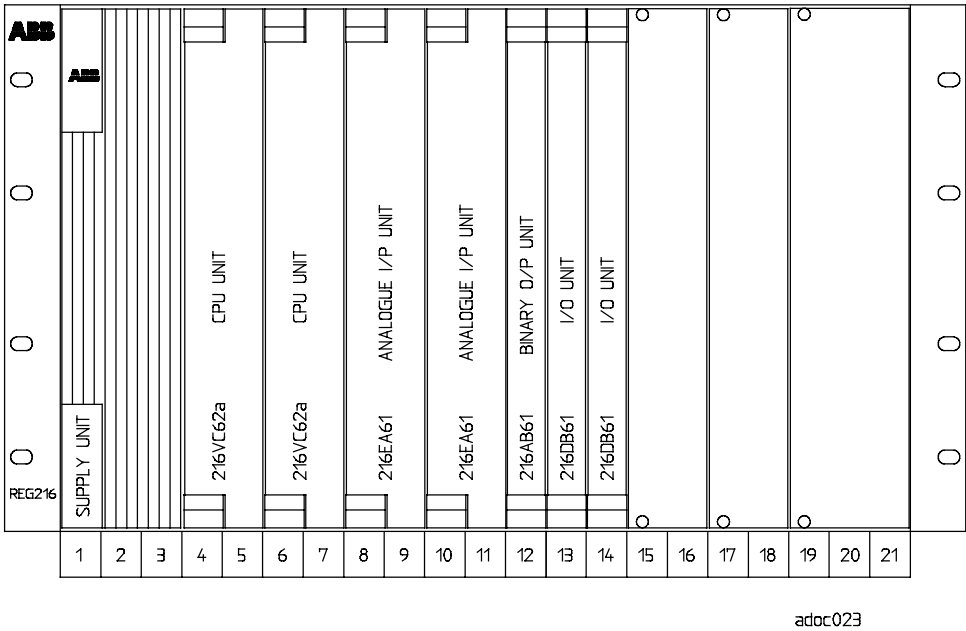

Fig. 2.2 Locations of the electronic units in the 216MB66 equipment rack
Fig. 2.2 shows an example of the arrangement of the electronic units in the equipment rack. The equipment rack is sub-divided into 21 divisions (T). Divisions 1-3 and 19-21 are always used for auxiliary d.c. supply units 216NG61, 216NG62 or 216NG63. In principle, the electronic units may be located in any of the remaining divisions 4-18, providing that the system cable connections were correspondingly installed. For reasons of standardisation, however, the various types of units are always located at the same position in the equipment rack.